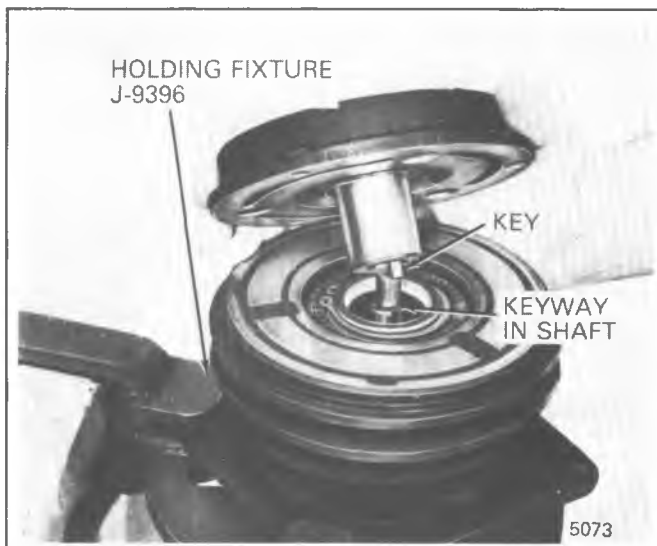

Figure 1D-8 Aligning A-6 Drive Plate Key
3. Install the Drive Plate Installer J-9480-1 as illustrated. This Installer has a left hand thread on the body (Figure 1D-9).